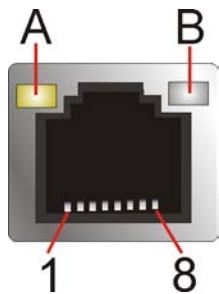

Figure 3-32: LAN Connector
- CN Pinouts:See **Figure 3-32** and **Table 3-30**